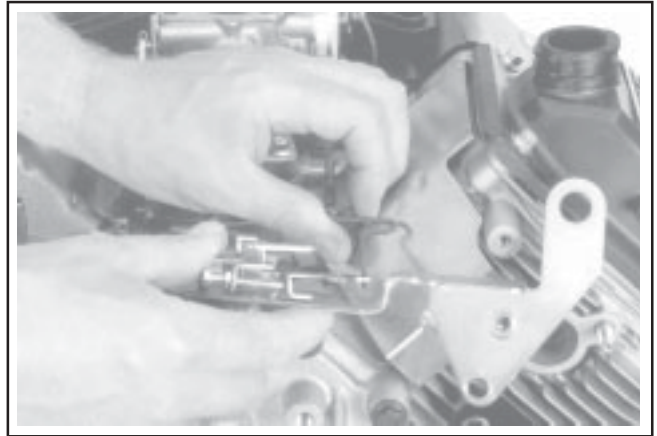

Figure 11-83. Connecting Choke Linkage.
1. Connect the choke linkage to the carburetor and choke actuator lever. See Figure 11-83.